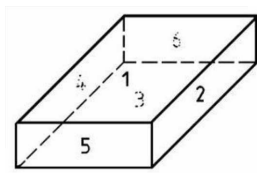

Fig.1
- The box must be positioned flat on the largest side (see Fig. 1).